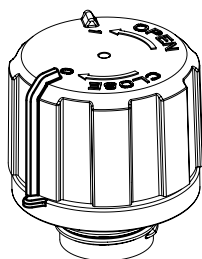

Fig.4
- 5) Sealing closure. To reach sealing closure from breather closure (see point 4), turn the cover following the CLOSE arrow (clockwise) until the click. In this position the cover is locked by means of the teeth fitted in the relative stop housing of the knurling: this is a guarantee against accidentally unscrewing. In this position the index on the cover marked with 0 is in line with the index on the flange of the threaded connector (Fig. 4).